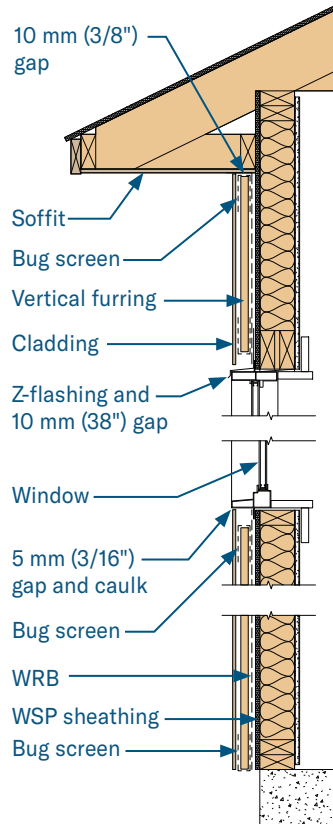

Figure 10a
- Openings at top and bottom of wall should be open to outside air and protected with insect screen. (Figures 10a, 10e)